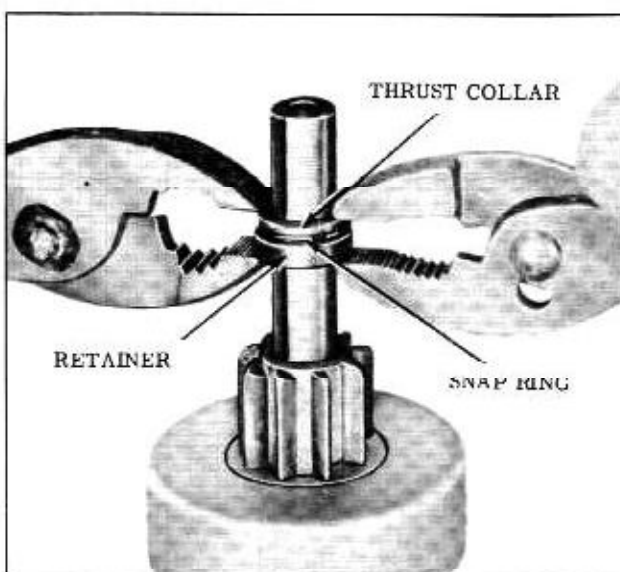

Fig. 13-43 Installing Thrust Collar and Retainer
- f. Position retainer and thrust collar next to snap ring. Using two pliers, grip retainer and thrust collar and squeeze until snap ring is forced into retainer and is held securely in groove in armature shaft. (Fig. 13-43)